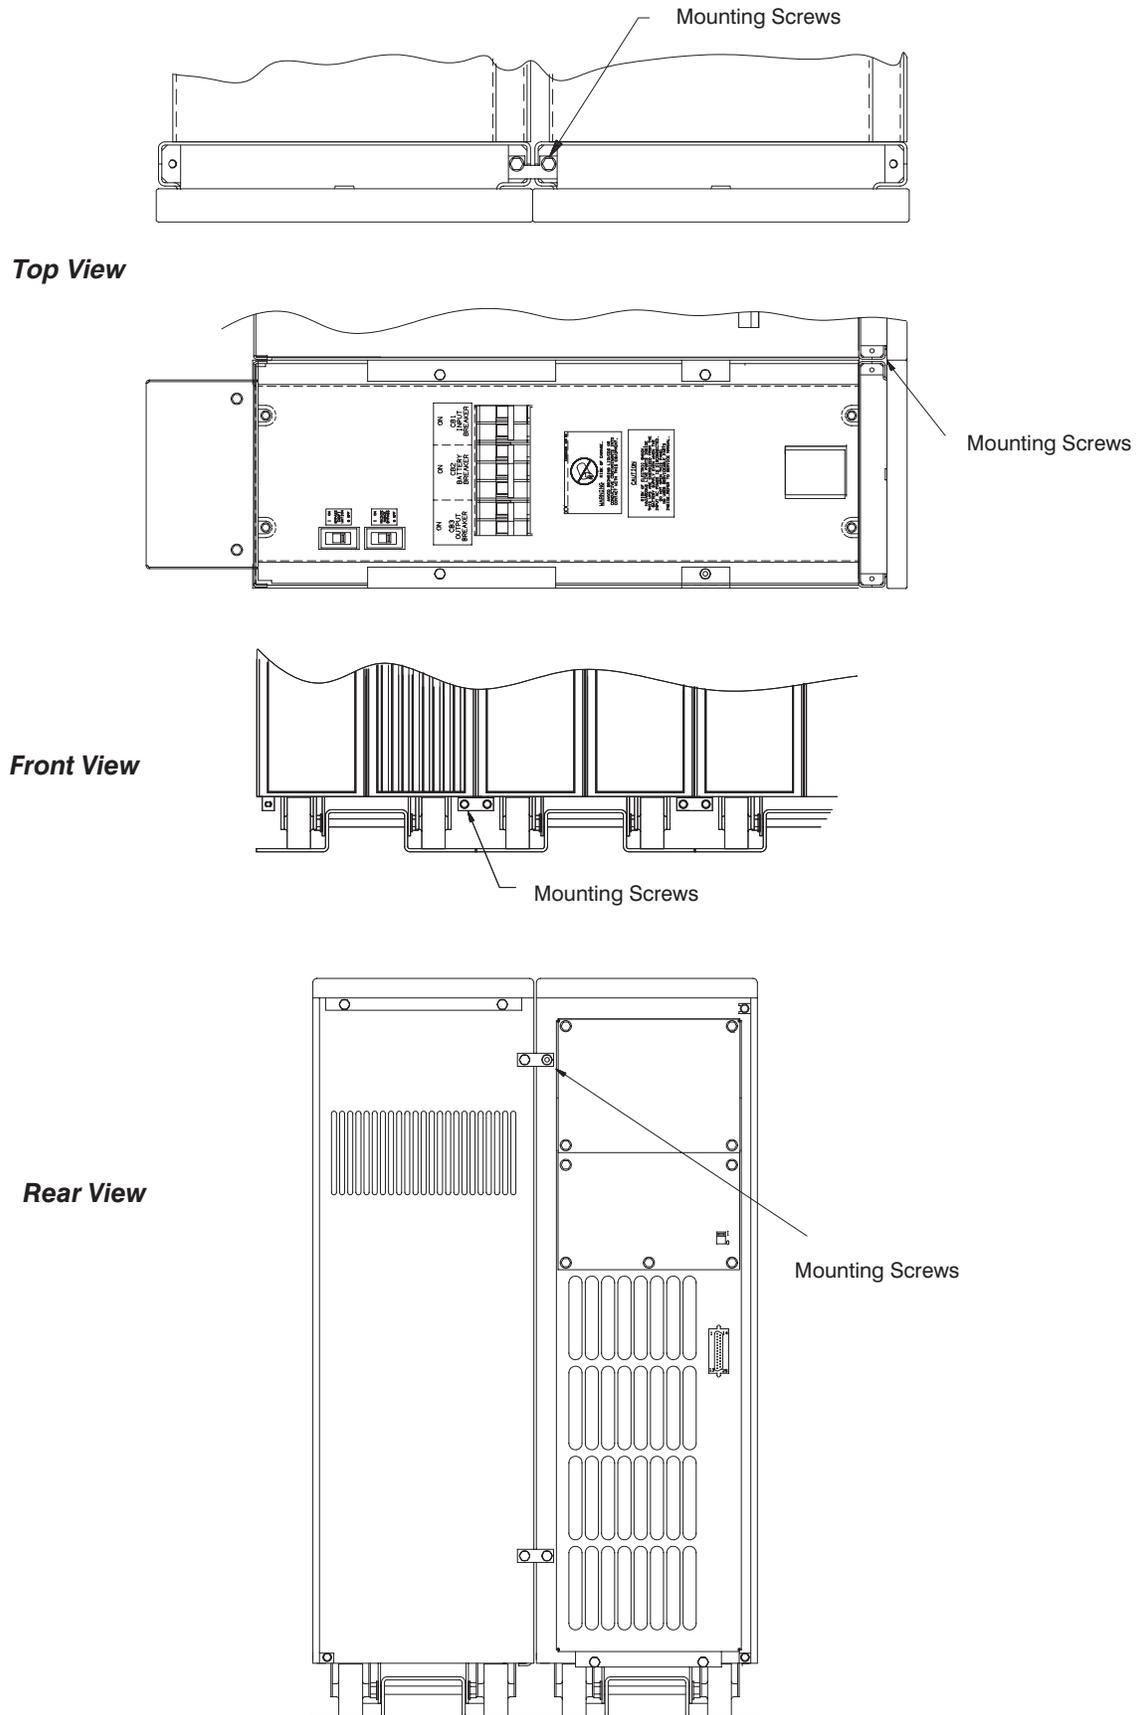

Figure 15. Joining the Cabinets (Front and Rear View)
17. Join the cabinets together in four places as shown in Figure 15.